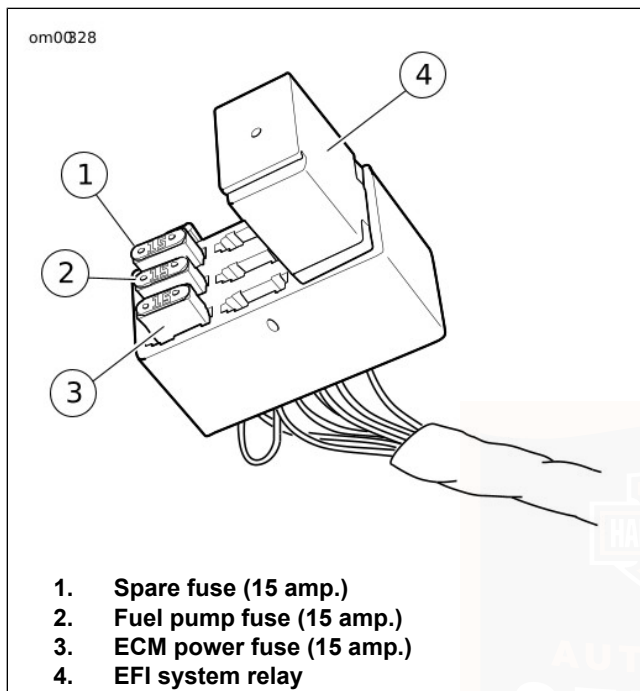

Figure 67. EFI Fuse Block
4. See Figure 67. Pull fuses from slots in fuse block and inspect for damage. Replace fuse if the element is burned or broken.
1. See Figure 67. Insert fuse in the appropriate slot.